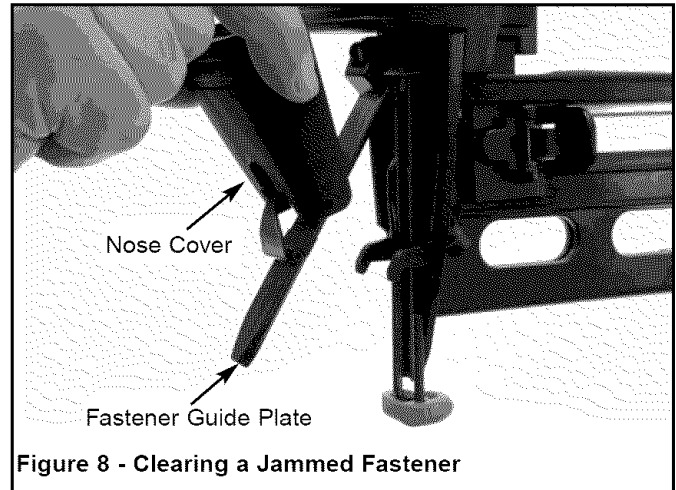

Figure 8 - Clearing a Jammed Fastener
- Grasp nose cover on both sides and pull outward until pin disengages from latch. then pull upward so that fastener guide plate swings away from magazine (see Figure 8).